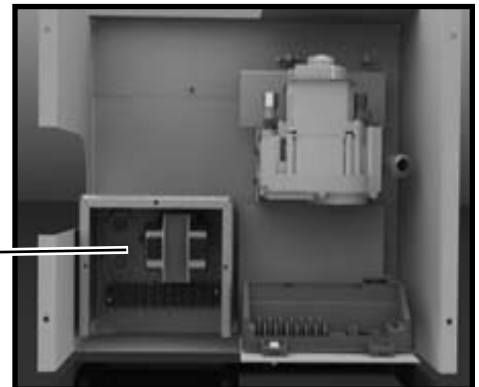

Figure 25: Electrical connections.
5. Run one 110 V. AC switched electrical supplies to the control box and connect to the transformer (Figure 25). The fireplace operates on 24V AC supplied by a transformer rated at 110 volts, 60Hz. See wiring diagram on page 31 for correct connections on terminal block.